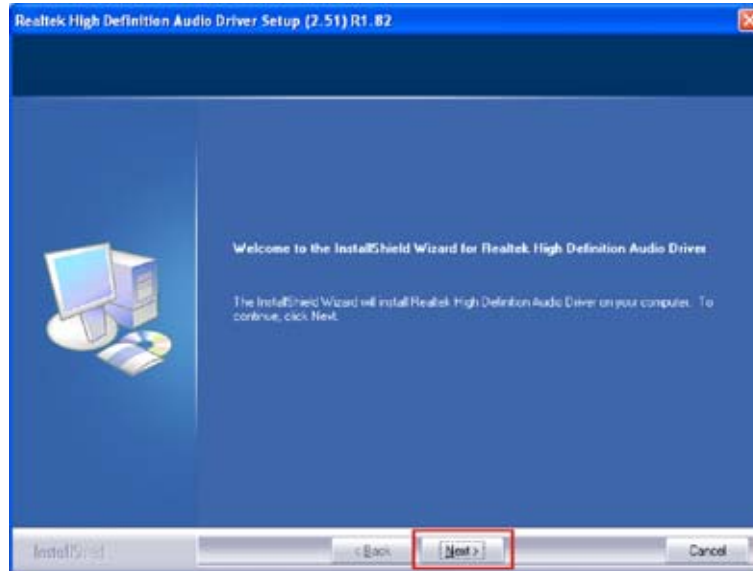

Figure 7-27: HD Audio Driver Installation Welcome Screen
Step 60: The AC'97 Driver Installation screen in **Figure 7-27** appears.